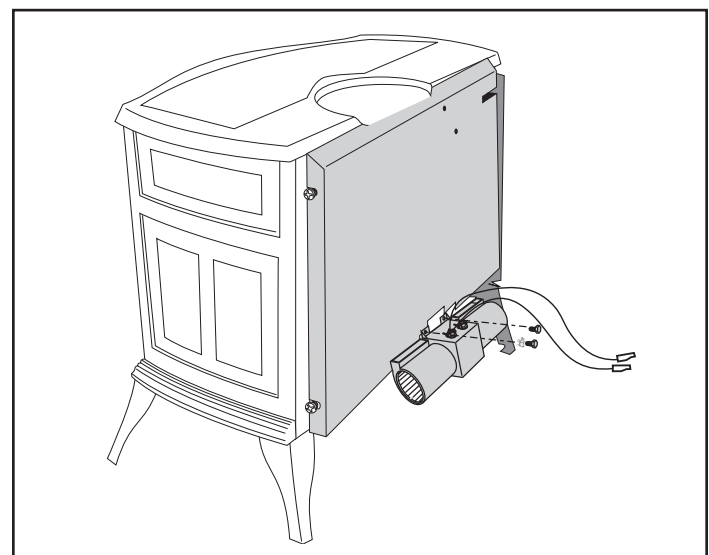

Figure 3.36 - Secure Blower assembly to lower back of the stove.
- Unfasten the two machine bolts attached to the lower back of the stove. Figure 3.36
- Using the two bolts secure the blower assembly to the rear of the stove. Figure 3.36